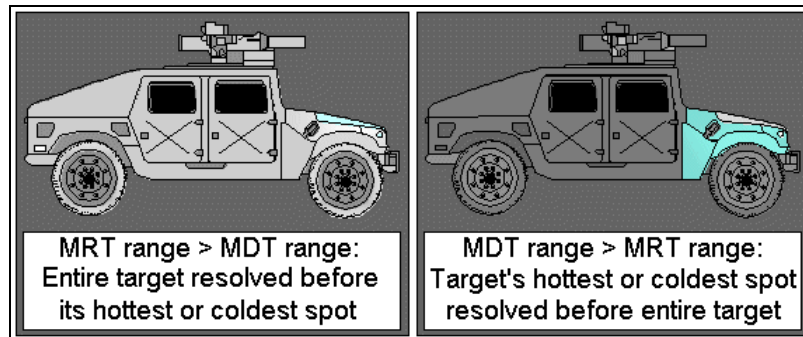

Figure 12 – MRT and MDT
- a. **Minimum Resolvable Temperature (MRT)** is associated with **whole target detection ranges**. The MRT is the temperature at which **all** facets of the target are visible based on view direction and altitude. The entire target is taken into consideration when target characteristics are evaluated. When the MRT detection range is greater than the MDT detection range (figure 12, left), the entire target will be resolved before the target’s hot or cold spot.
- b. **Minimum Detectable Temperature (MDT)** is associated with **hot spot/cold spot target detection ranges**. The MDT reflects the temperature of the hottest or coldest facet of the target visible to pilot based on view direction and altitude. Only a single facet of the target is taken into consideration when target characteristics are evaluated. When the MDT detection range is greater than the MRT detection range (figure 12, right), the target's hot (or cold) spot will be resolved before the entire target is.